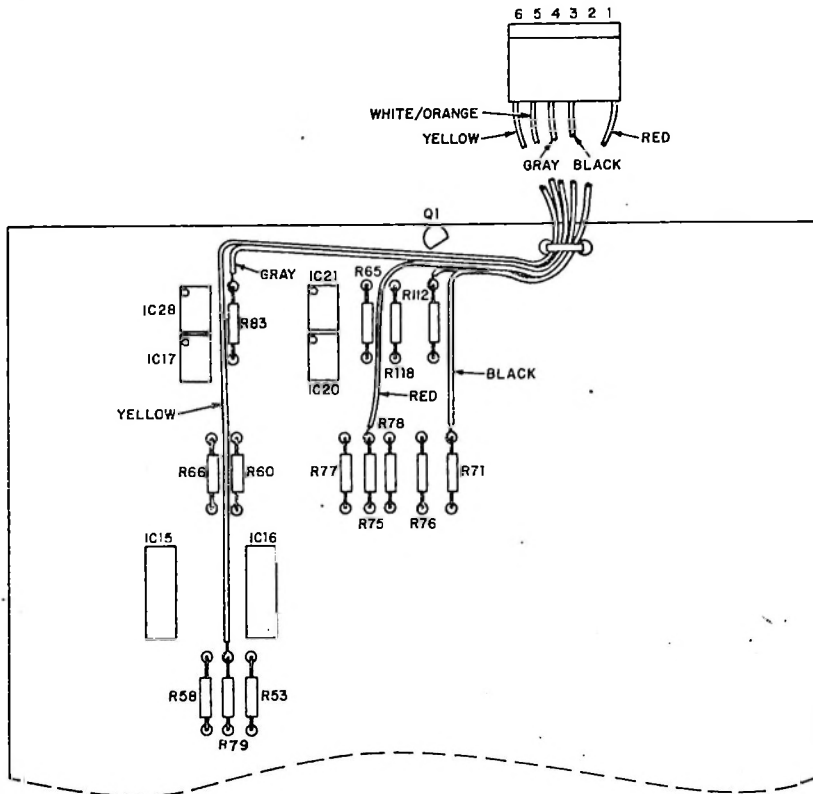

Figure 1
- b. Solder the wires of the harness to the resistor leads as shown in figure 1.